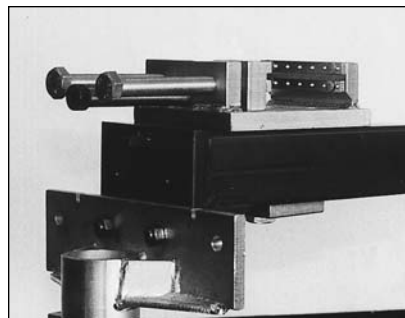

Figure 43
**Standard Rail Vise Attachments** (optional accessory) function much like the narrow rail vise. (See page 5.) The wider jaws of the standard vise (see Figure 43) provides a broader gripping area. The extra width; however, requires the use of two adjustment bolts to secure the jaws firmly to a boxed frame rail. The attachment is secured to the crossbar using appropriate length tie down bolts and tie down plates.